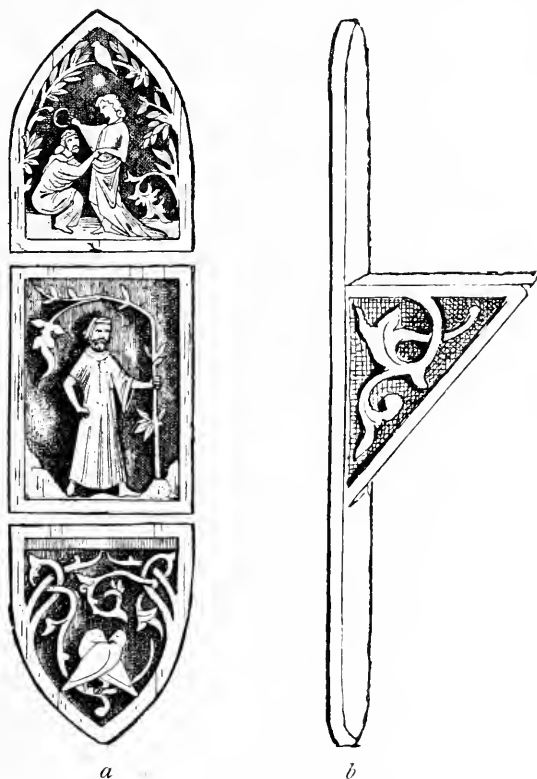

Fig. 77. BRACKET. THE TANNHÄUSER.
*Brackets and Bracket Shelves.* These useful objects may be made in a great variety of forms. The simplest is merely three pieces of board fastened together in a triangle. In the illustration, Fig. 77, there are five pieces. The centre of *b* slopes at an angle of  $45^{\circ}$ . Bracket shelves are made by hanging two brackets and laying a board across them. A bracket may be made on a longer board, and have two or more shelves, it then becomes a hanging rack or cabinet. Or the support may be a long strip in which pegs of wood or metal are placed, on which objects are